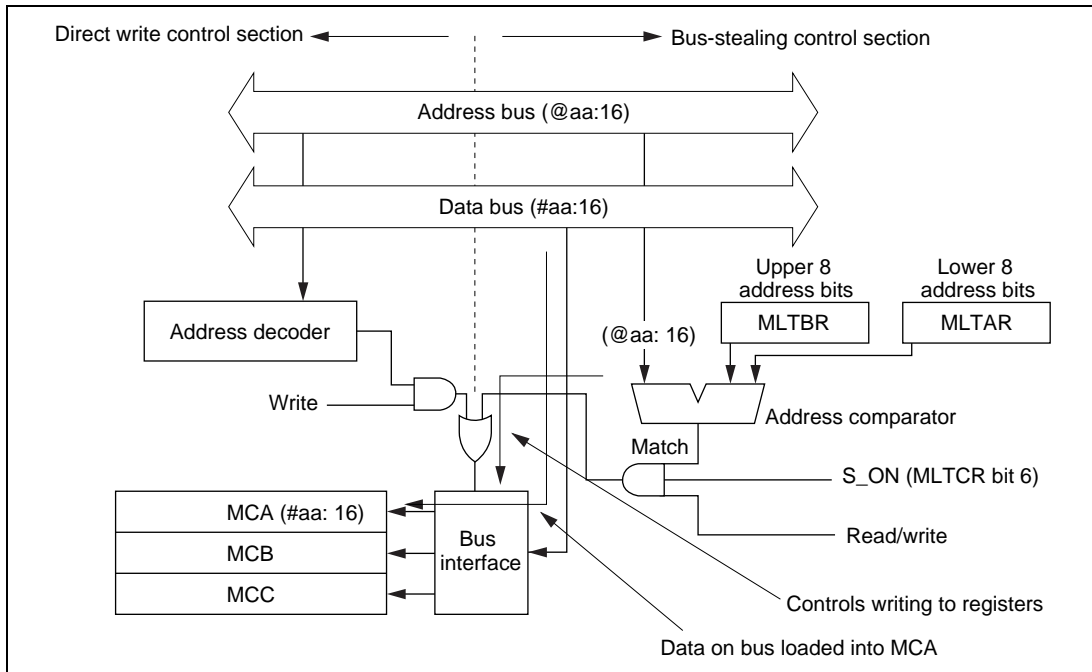

Figure 5-2 Loading of Data into Register MCA by Bus Stealing
(1) Loading of Multiplier by Bus Stealing: Figure 5-2 shows the loading of data into register MCA by bus stealing. If the S_ON bit is set to 1, the H8MULT module monitors the address bus when the CPU accesses its memory address space, and compares the address on the bus with the MULT base address register (MLTBR) and MULT multiplier address register (MLTAR).